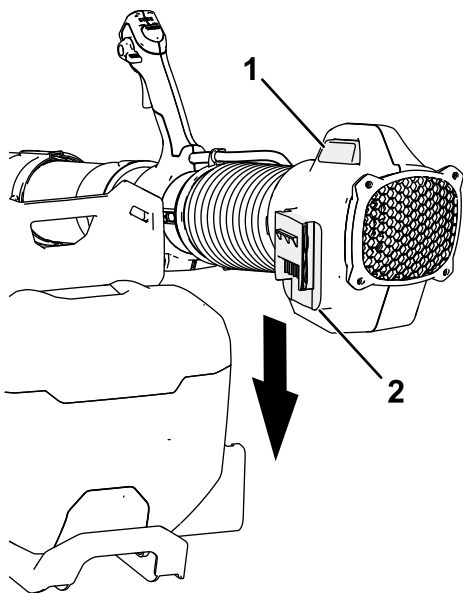

Figure 5
2. Press the blower latch button and push the cannon down into the backpack until it clicks into place (Figure 5).